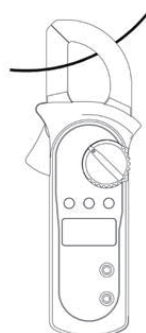

Figure 8
F. Measuring AC Current (See Figure 8)**⚠ Warning**